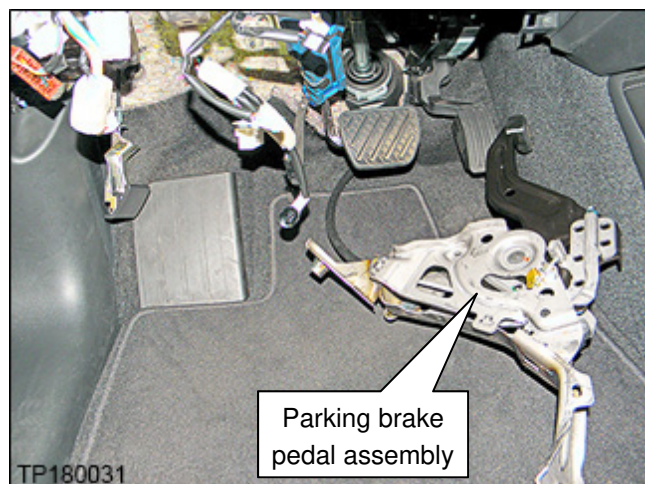

Figure 5
8. Remove the parking brake pedal assembly from under the Instrument Panel and lay it on the floor as shown in Figure 5.